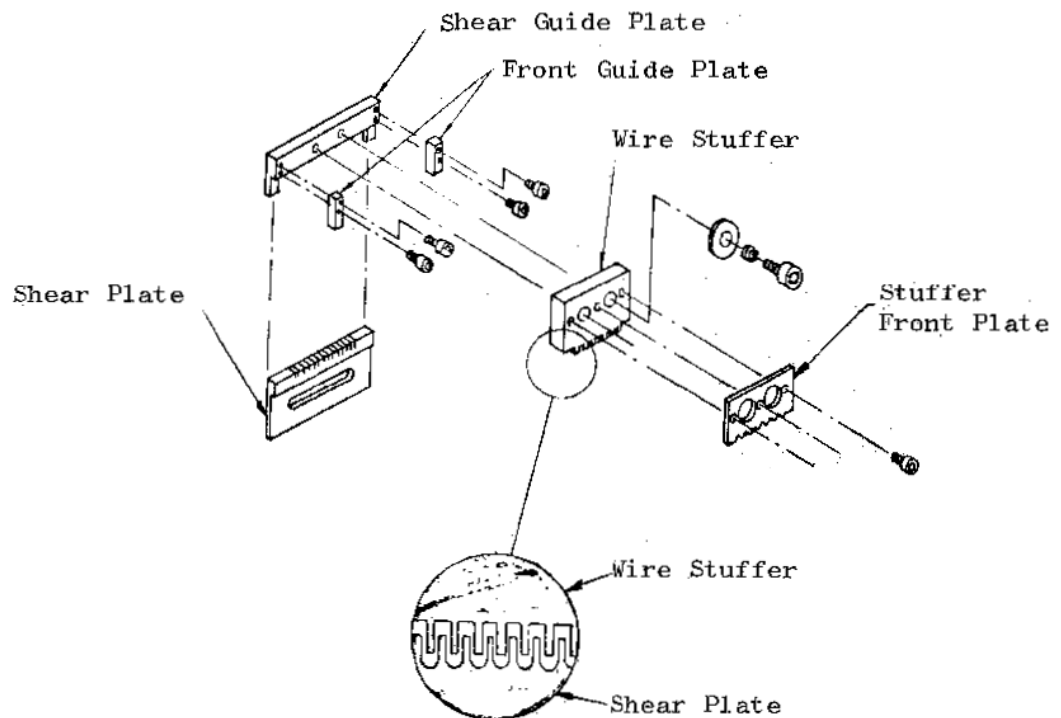

Fig. 9
When replacement of wire stuffer is done, or securing screws are loosened by some reason, it will become necessary to obtain fine alignment positioning of wire stuffer assembly. Incorrect positioning of wire stuffer will directly result defective termination of connector which often accompanies damages of contacts and housing. Proceed as follows. (See Fig. 9.)
- (1) Remove front guide plates (right and left) by loosening the screws.
- (2) Remove stuffer front plate by loosening off the screw.
- (3) Loosen the screws that secure wire stuffer. Replace wire stuffer with new part when necessary, and turn the screws on by fingers but not tightly just to keep the part in place.
- (4) Lower press ram slowly to see that shear plate correctly engages with wire stuffer at the centered alignment as shown in the enlarged view of Fig. 9. With the parts correctly aligned, turn on the screws and secure tightly.
- (5) Replace the removed stuffer front plate with correct alignment of upper and side surfaces with the edges of wire stuffer, and secure it with screws.
- (6) Replace the front guide plates (right and left) and secure them with screws.